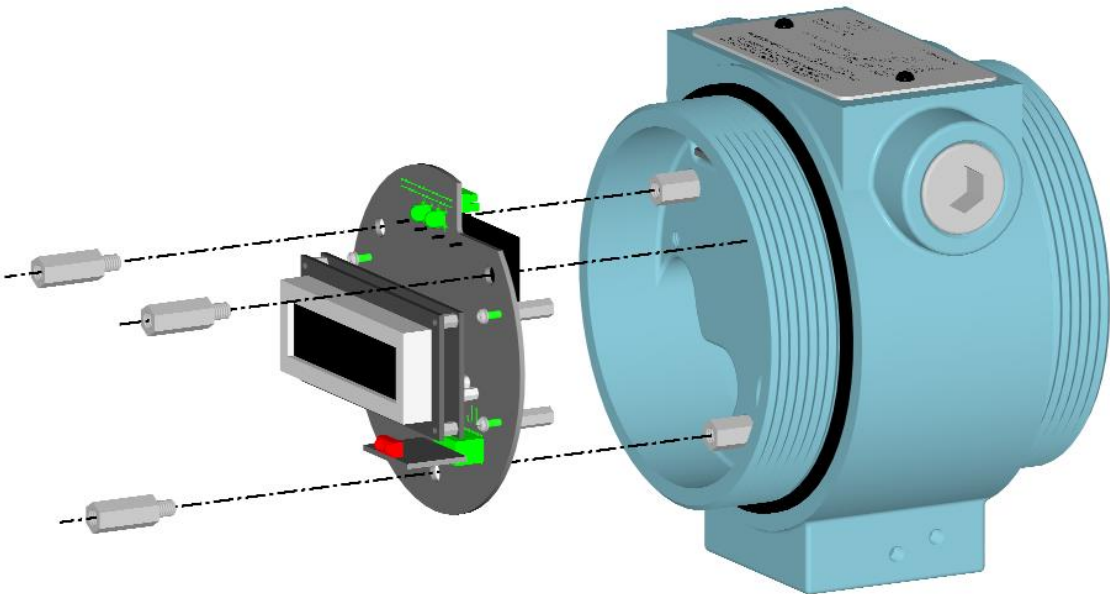

Figure 8.6: Power Supply/Display Removal (Installation)
4. Unscrew the three standoffs to free the Power Supply and Display assembly from the transmitter body, and lift the assembly from the enclosure (Figure 8.6). Unscrew the power regulator as well.